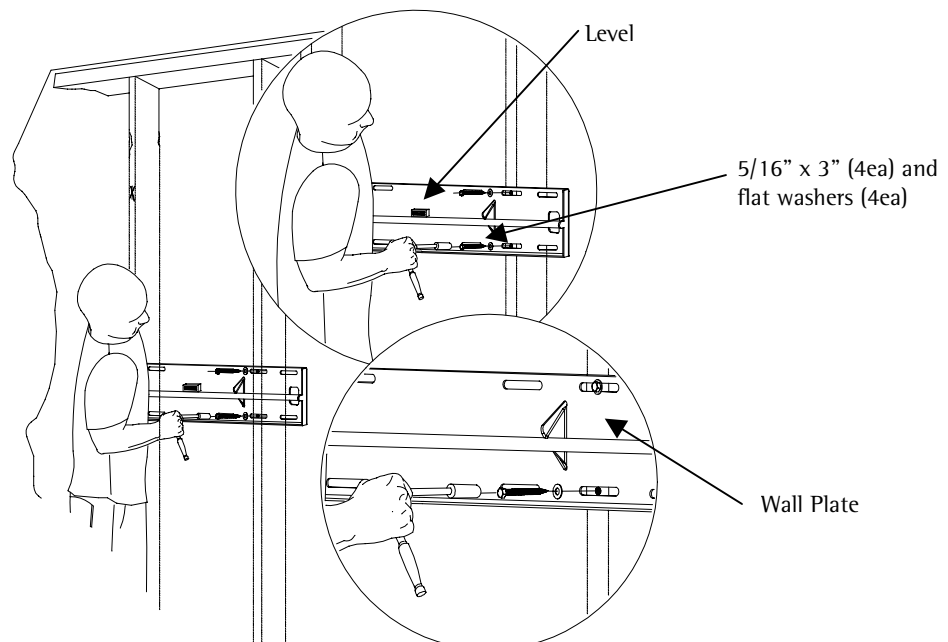

Figure 13. Securing the Wall Plate
2. Secure the plate using four (4)  $\frac{5}{16}$ " lag bolts and flat washers (Figure 13).